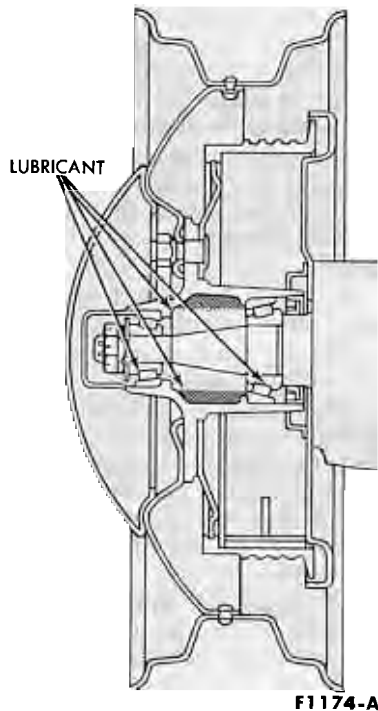

FIG. 8—Front Wheel Hub Lubrication
specified wheel bearing grease. Add lubricant to the hub only until the grease is flush with the inside diameter of both bearing cups (Fig. 8).
5. Pack the inside of the hub with specified wheel bearing grease. Add lubricant to the hub only until the grease is flush with the inside diameter of both bearing cups (Fig. 8).